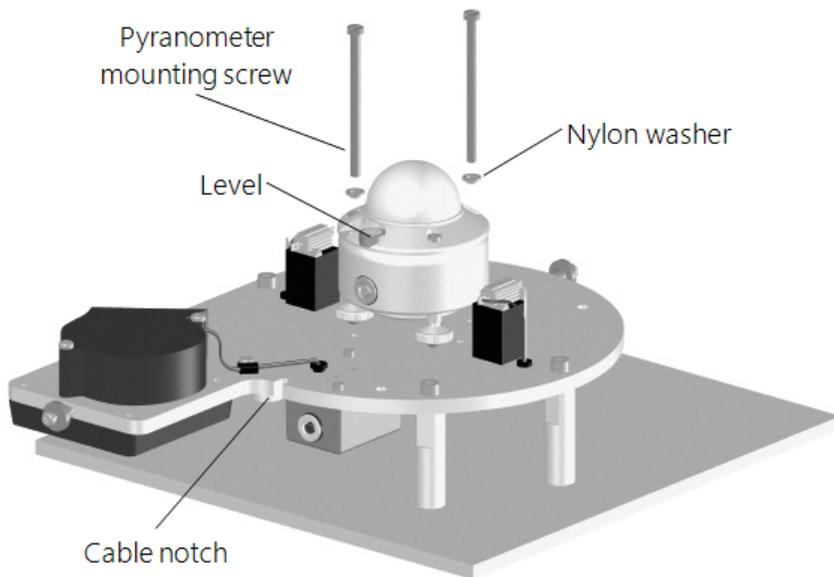

Figure C-7. Mounting the pyranometer to the CVF4
5. Loosely mount the pyranometer on the CVF4 by using the mounting screws and washers. Do not fully tighten the pyranometer two mounting screws (Figure C-7 [p. 26]).